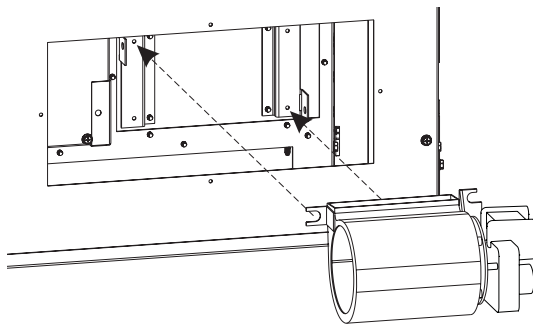

Figure 3
2. Place Blowers onto blower brackets. See Figure 3.